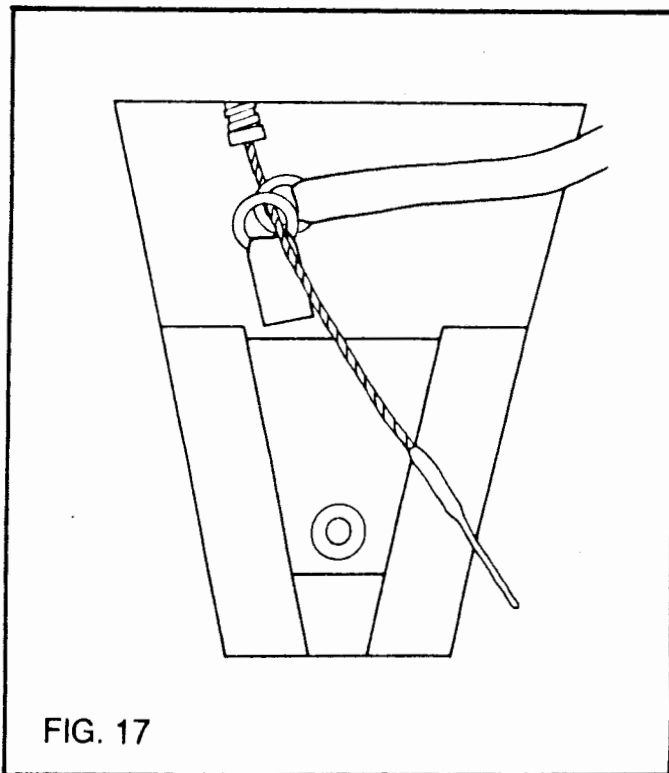

FIG. 17
Immediately after exiting the end of its housing, the reserve ripcord must be passed thru the small ring on the end of the Reserve Static Line (RSL), and then thru the same type of ring mounted on the reserve top flap (see FIG. 17). The velcro on the RSL should then be mated to the velcro track provided on the rear surface of the reserve right front riser. Route the RSL over the shoulder so that the end with the bronze snapshackle exits from under the reserve riser just behind the main support ring of the harness (see FIG. 18). There should be about two to three inches of the RSL remaining so that when assembling the DOLPHIN with a main canopy, the snapshackle can be attached to the ring on the right main riser.
16) Lay the pilot chute out in a full circle with the mesh side up and fold it in half with the mesh on the inside as shown in FIG. 17.